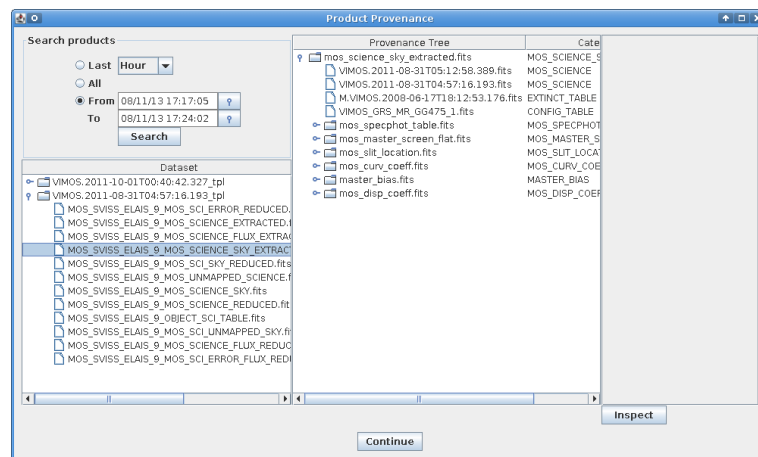

Figure 4.5: The Product Explorer shows all datasets reduced in previous executions together with the full reduction chain for all the pipeline products.
9. Once the reduction of all DataSets has finished, a pop-up window called *Product Explorer* will appear, showing the datasets which have been reduced together with the list of final products. This actor allows the user to inspect the final data products, as well as to search and inspect the input data used to create any of the products of the workflow. Figure 4.5 shows the Product Explorer window.